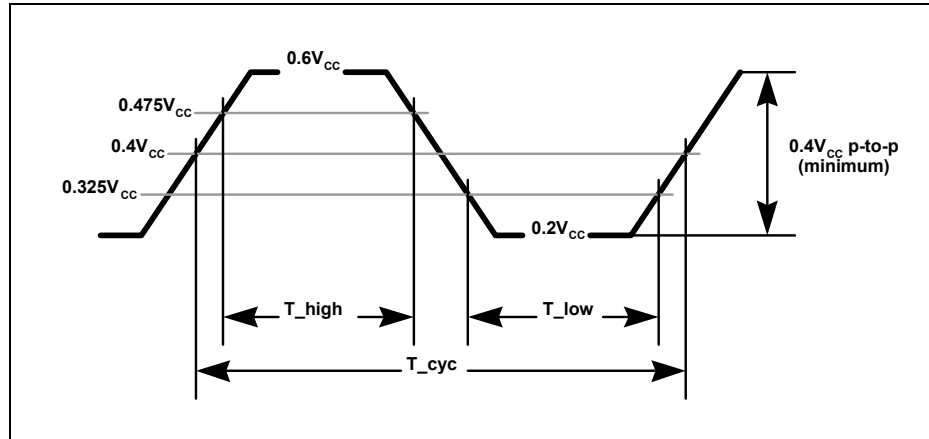

Figure 29. PCI/CardBus Clock Waveform
The 82559 uses the PCI Clock signal directly. Figure 29 shows the clock waveform and required measurement points for the PCI Clock signal. Table 37 summarizes the PCI Clock specifications.
2. Rise and fall times are specified in terms of the edge rate measured in V/ns. This slew rate is met across the minimum peak-to-peak portion of the clock waveform as shown in Figure 29.